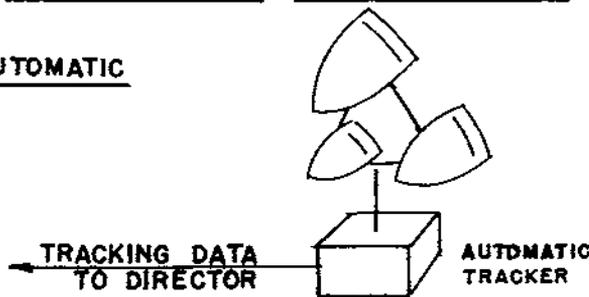

FIG. 5
*e. Automatic tracking.* In automatic tracking the tracking telescope is power driven through appropriate mechanisms to follow a target traveling at any speed along any course. Control is automatic and requires no manual adjustments. (See Figure 5.)